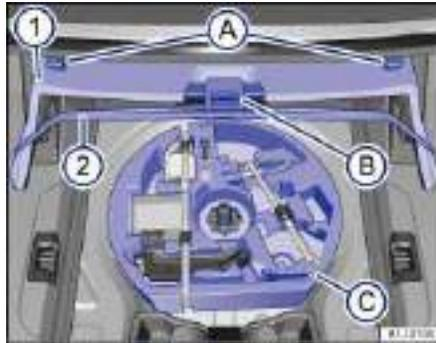

Fig. 177 Luggage compartment with luggage compartment cover 1 and floor covering 2 folded up.
- Lift and, if necessary, remove the floor covering ⇒ fig. 177 (2).